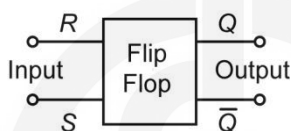

Fig. 16.2: Symbol of flip-flop.
You are already conversant with the voltage comparators, which are nothing but the operational amplifiers without any feedback. You may not have learnt about the flip-flop. But it is sufficient here to know that it is a digital circuit which has two inputs named set (S) and reset (R). The two outputs of the flip-flop are complementary to each other, that is, if one output is 1 then the second one is 0, and vice versa. The symbol of a flip-flop is shown in Fig. 16.2. The output of the flip-flop (Q) is set to high (1) when the set input (S) is high (1) and the output is low when the reset input (R) is high (1).